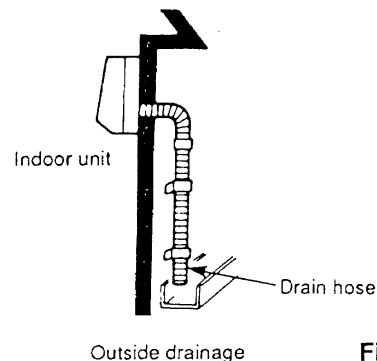

Fig. 1
- select a location where piping and drain pipe have shortest run to the outside. Fig. 1